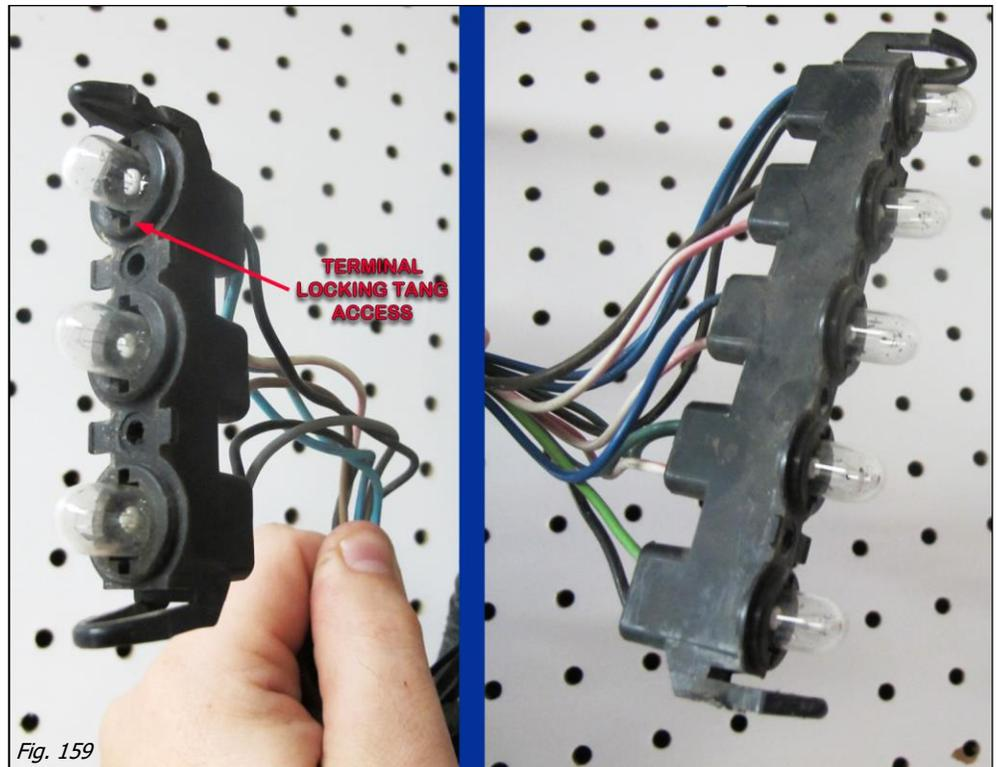

Fig. 159
- To un-pin the factory connector, you need a tool like a really small flat head screw driver, a paper clip, or stiff wire (a small piece of MIG welding wire works great). Insert your unpinning “tool” into the square slot next to the terminal (see Fig. 159). This slot gives you access to the locking tang of the terminal. With the tool inserted, pull the wire from the connector.